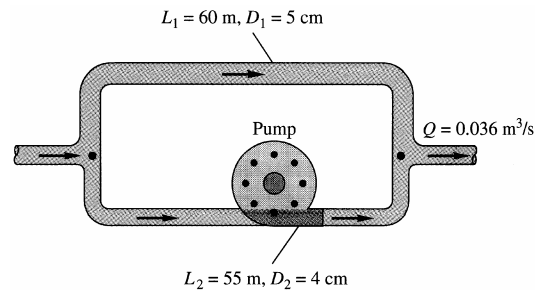

Fig. P6.113
6.113 The parallel galvanized-iron pipe system of Fig. P6.113 delivers water at 20°C with a total flow rate of 0.036 m³/s. If the pump is wide open and not running, with a loss coefficient $K = 1.5$, determine (a) the flow rate in each pipe and (b) the overall pressure drop.